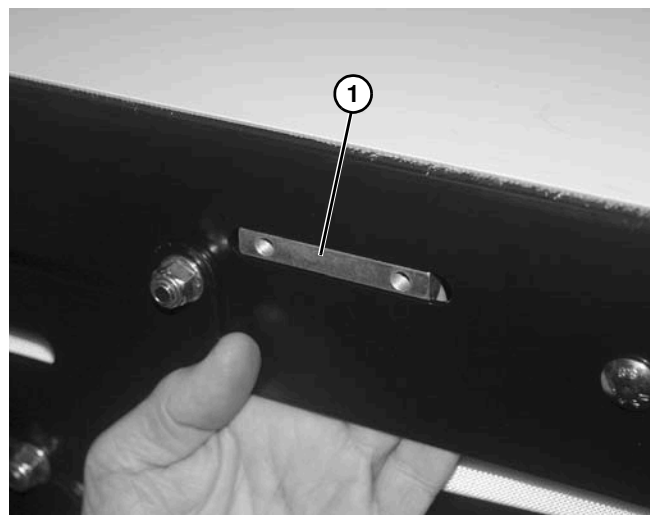

Figure 52
3. Fully seat tee bar (**Figure 52, item 1**) into slot.